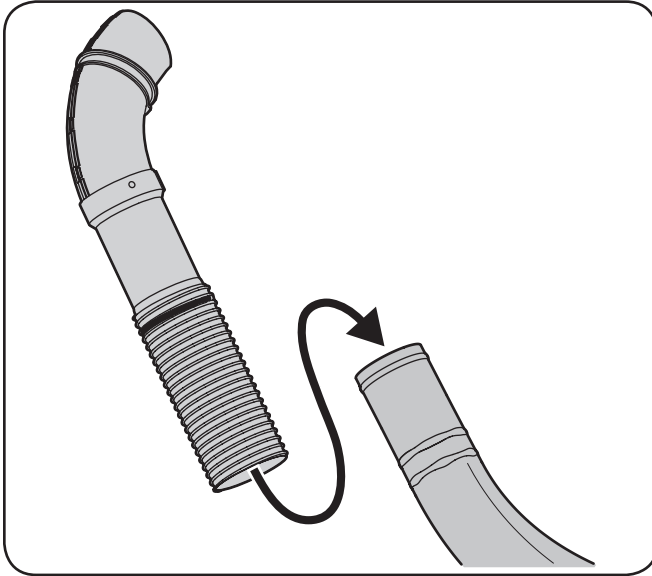

Figure 4-24
7. Install the upper chute tube onto the discharge chute elbow as shown in Figure 4-24.